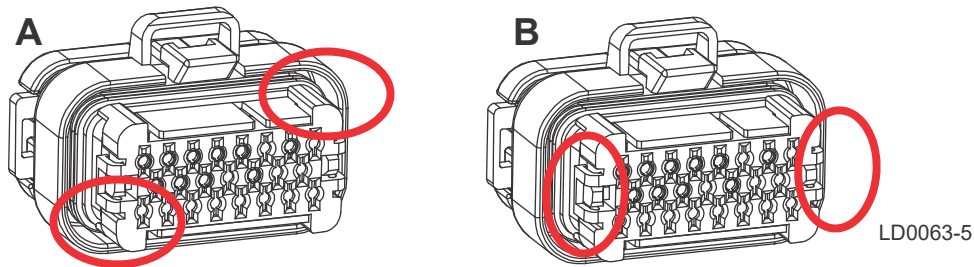

FIG. 2-49 LT70HD DCS ONLY
See **Figure 2-49**. Use a small flat head screwdriver to pry up the red retainer in the locations shown below (A). Do not remove the red retainer completely from the connector. The retainer should still be attached by the locking latches on each side as shown below (B).